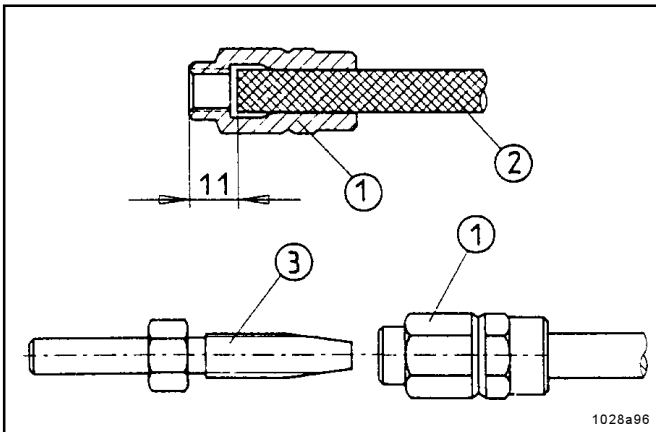

Fig. 30 - Preassembly of the threaded sleeves and hose studs on the main line
- Screw the threaded sleeve, item 1 Fig. 30, counterclockwise onto the high pressure plastic hose 2 until the illustrated dimension of 11 mm is reached. Then screw the hose stud 3 into the threaded sleeve 1.